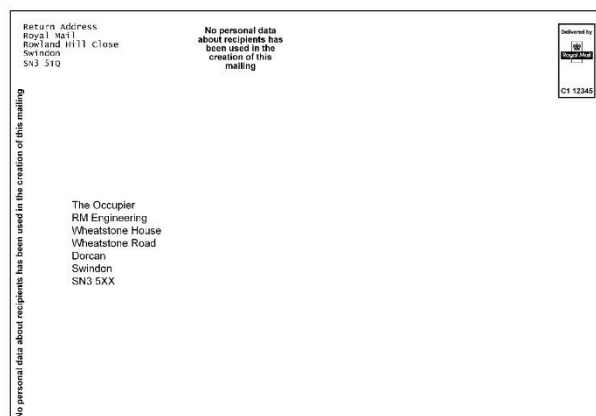

Figure 39: For postcards only, the Declaration location can be placed in either of the positions shown
- d. or, in the case of postcards, the Declaration may, as an alternative to Figure 37 and Figure 38 above, be printed linear format, in any readable font, on the vertical left edge of the Mailing Items. Figure 39 below illustrates the two alternatives for the position of the Declaration for postcards: